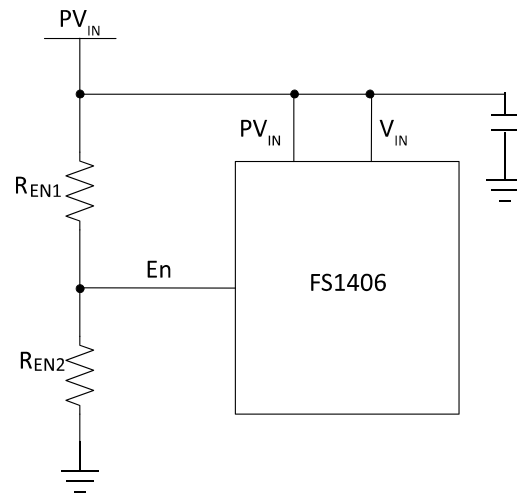
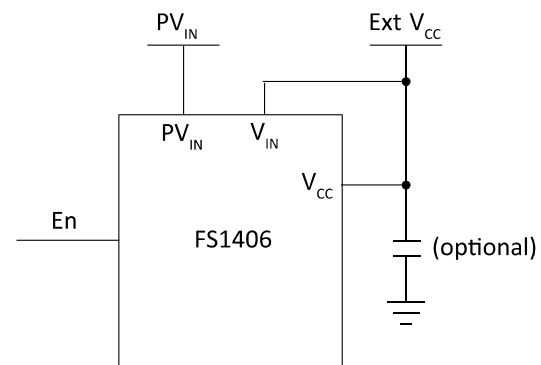

Figure 6 Single supply configuration: internal LDO regulator, adjustable PV_{IN} UVLO
Figure 7 Using an external bias voltage
The FS1406 has an integrated Low Drop-Out (LDO) regulator, providing the DC bias voltage for the internal circuitry. The typical LDO regulator output voltage is 5.2V. For internally biased single-rail operation, the V_{IN} pin should be connected to the PV_{IN} pin (Figure 6). If an external bias voltage is used, the V_{IN} pin should be connected to the V_{CC} pin to bypass the internal LDO regulator (Figure 7).
- It can be used to implement a precise input voltage UVLO. The input of the En pin is derived from the PV_{IN} voltage by a set of resistive dividers, R_{EN1} and R_{EN2} (Figure 6). Users can program the UVLO threshold voltage by selecting different ratios. This is a useful feature that stops the FS1406 regulating when PV_{IN} is lower than the desired voltage.